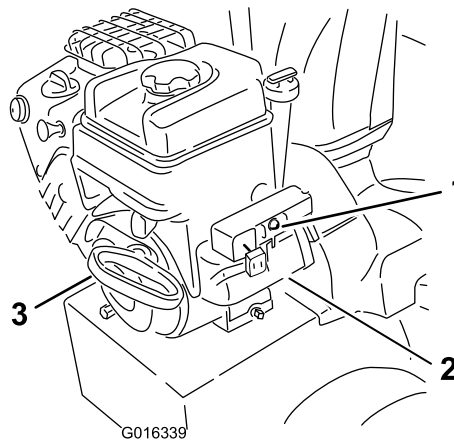

Figure 24
8. Start the machine by pulling the recoil starter or pressing the electric-start button (Figure 24).